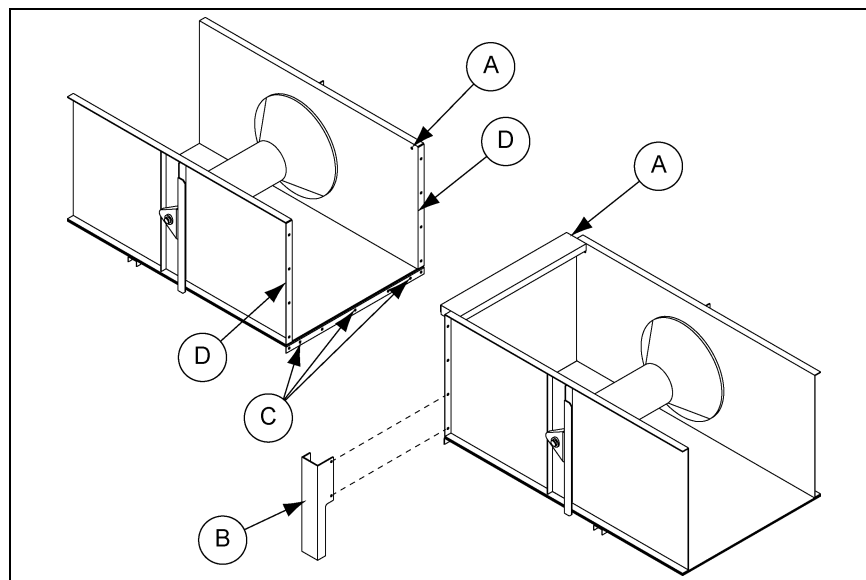

Figure 4B Conveyor Section Assembly
4. Apply silicone to the flanges (D) along the side panels and bottom of the two (2) sections to be joined. Mate the first intermediate section with the loader section. Fasten sections with supplied grade 136.6 mm diameter hex head cap screws and nuts. Sections may be assembled in any order unless otherwise specified on the certified drawing.
5. The bottom flanges of each conveyor section have several 9.6 mm diameter holes. *(See Figure 4B.)* As each conveyor section is assembled to the preceding section, drive bull-nose alignment pins (C) through the matching pairs of the smaller 9.6 mm diameter holes. This arrangement ensures that liners of adjoining conveyor sections form a smooth, even surface with no lip or ledge in which the belt might otherwise catch. Use a straightedge to verify that the liner surfaces of adjoining conveyor sections are even. If they are not, find and correct the problem.
6. Attach a pair of the optional support legs (B) and complete fastening the two (2) conveyor sections together as shown in Figure 4B on Page 25. Support legs (B) are optionally furnished in right hand/left hand sets. One set is required at each conveyor section joint to ensure proper alignment and support.
11. Drive out the alignment pins (C). Replace them with 9.6 mm diameter hex head cap screws and nuts which have been furnished with the conveyor.